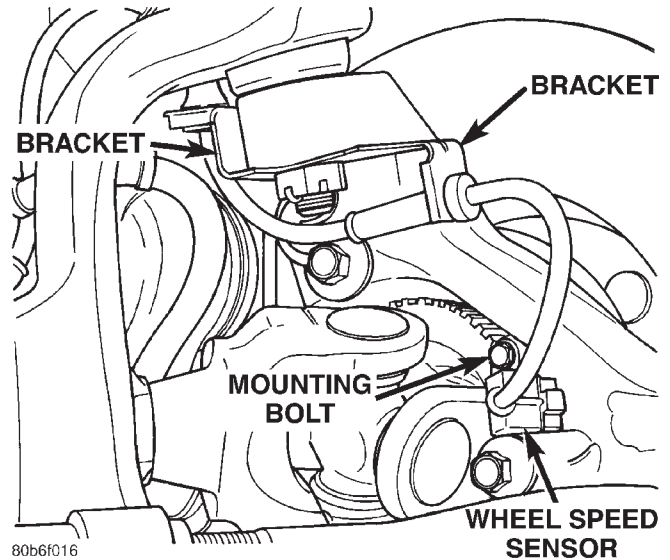

Fig. 8 Sensor Location
- (1) Raise and support vehicle.
- (2) Remove front wheel sensor mounting bolt (Fig. 8).
- (3) Remove the sensor from the steering knuckle.
- (4) Disengage sensor wire from the brackets (Fig. 8) on the steering knuckle.